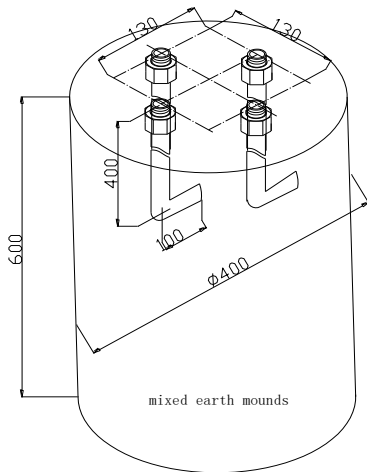

Figure1: manufacture of mixed earth mound
Figure 1 the fabrication of anchor, lasso and guy cable
5. Please refer to the national standard, or the European standard, or American standard or figure 1 in this manual to arrange grounding device.